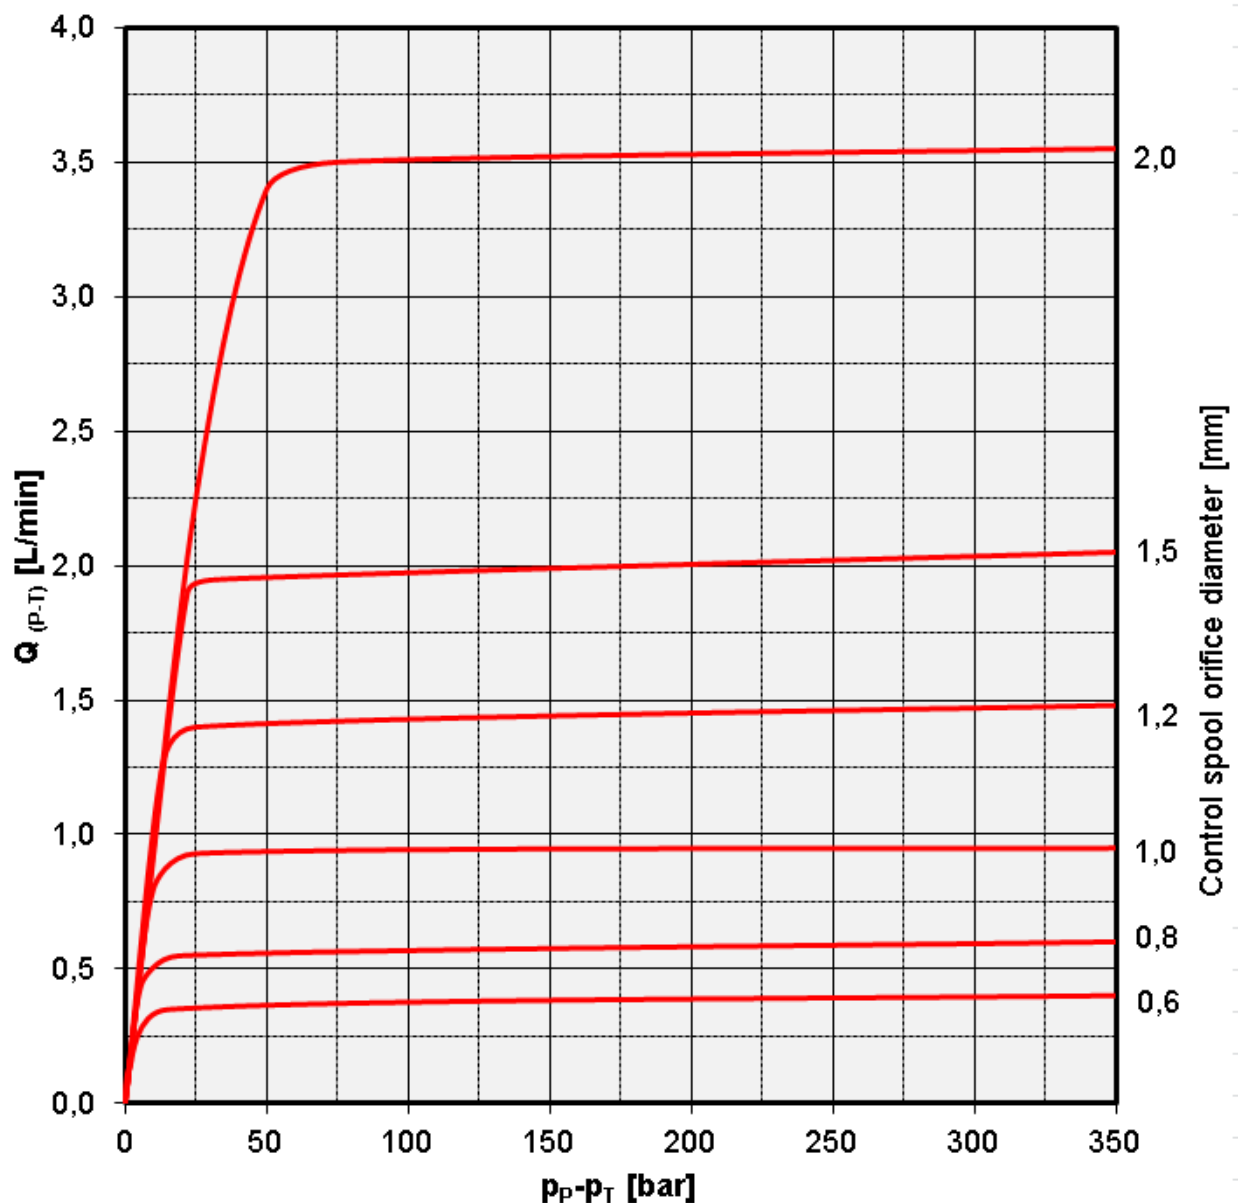

Figure 2: Control characteristics as a function of the control spool orifice size
The WE42P06HMC1P directional valve can provide a pressure independent flow control of up to 4 L/min depending on the size of the orifice in the control spool. Selection of the proper orifice size for the flow desired can be done using Figure 2.
In addition to the pressure independent flow characteristics, Figure 2 demonstrates a further advantage of this valve. In order to achieve a flow of approximately 2,5 L/min with a $\Delta p=300$ bar, a conventional orifice configuration would require a 0,6 mm orifice. With the directional valve it is possible to achieve the same flow control using a 1,5 mm orifice in the control spool. As a result of this larger orifice size, the entire hydraulic system is therefore less prone to failure.
*Please use Figure 2 on page 5 when selecting an orifice size. For mounting information and order numbers see page 10.